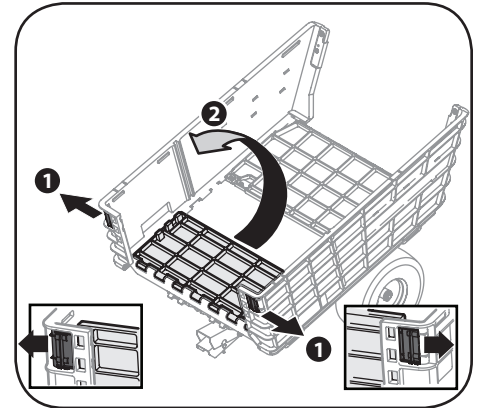

Figure 3-6
9. With both sides now raised, lift the front panel up and insert the front panel into the side panels pull outward on the tabs until they click into place. See Figure 3-6.